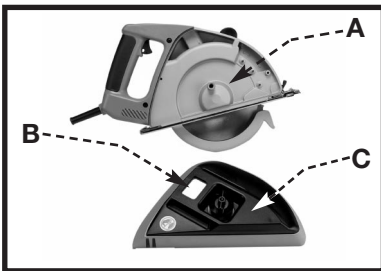
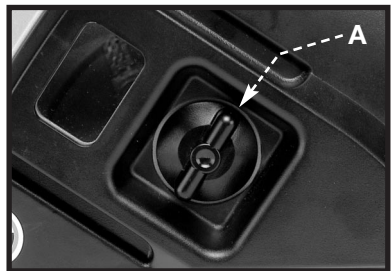

Fig. 5
Fig. 6
This dry-cut metal saw has an internal debris collector (A) Fig. 5. The cover for the collector has a window (B). When the debris covers half of the window, remove the cover to empty the collector.
1. Turn the knob (A) Fig. 6 counter-clockwise to loosen the cover (C) Fig. 5.
2. Remove the cover (C).
4. Install the collector cover by securely turning the knob (A) Fig. 6 clockwise. Tighten securely.